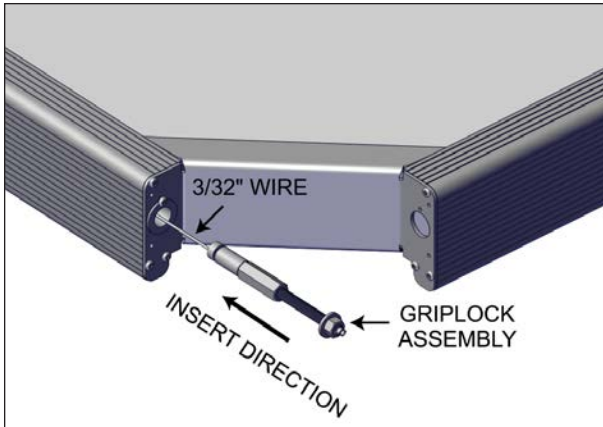

FIGURE 49: GRIPLOCK INSTALLATION
7. Run the wire through the Griplock, see Figure 49.